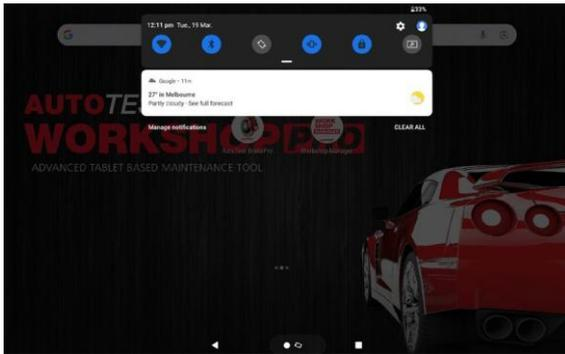

Figure 56
1. Swipe down from the top of the screen to show a quick view of settings (Figure 56).